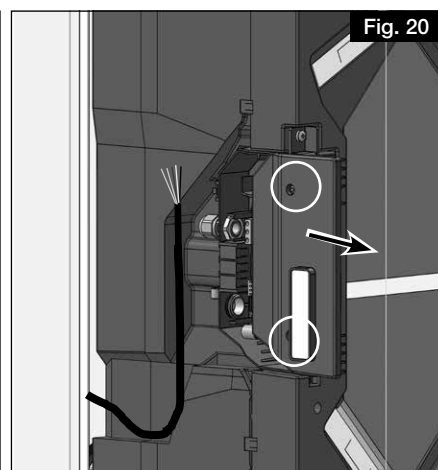

Fig. 20
3. Loosen the two screws on the terminal box cover and remove the cover (see Fig. 20). Make sure that the ribbon cable of the membrane keypad is not stressed.